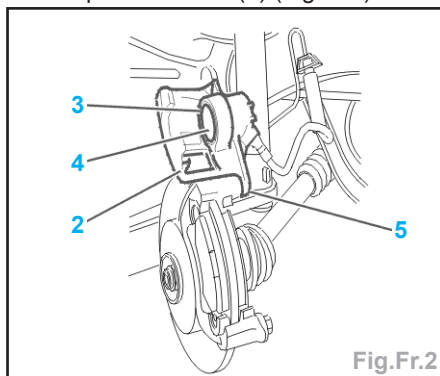

Fig.Fr.2
- Faire pivoter l'étrier (2) (Fig.Fr.2).